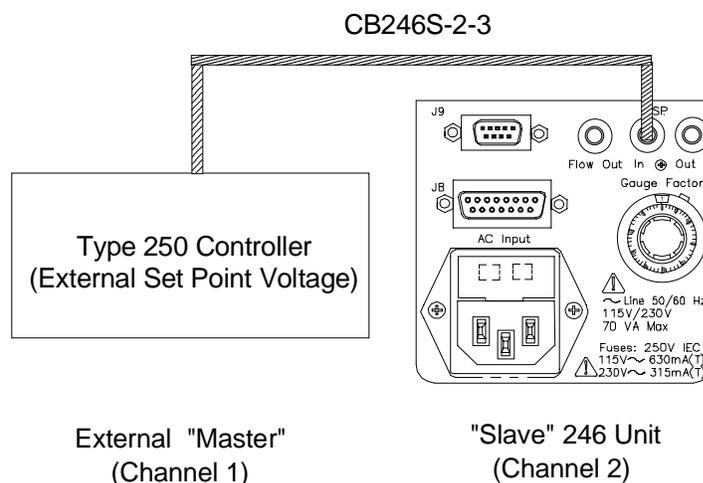

Figure 5: External Set Point Control Setup - Individual Flow Control
For individual flow control, the system requires the 246 unit, the MFC, an external pressure controller, and the appropriate cables. To connect the 246 unit to an external controller, connect the proper interface cable from the external controller to the SP IN jack on the 246 unit (refer to Figure 5).
**Note**  The drawing in Figure 5 is not drawn to scale.